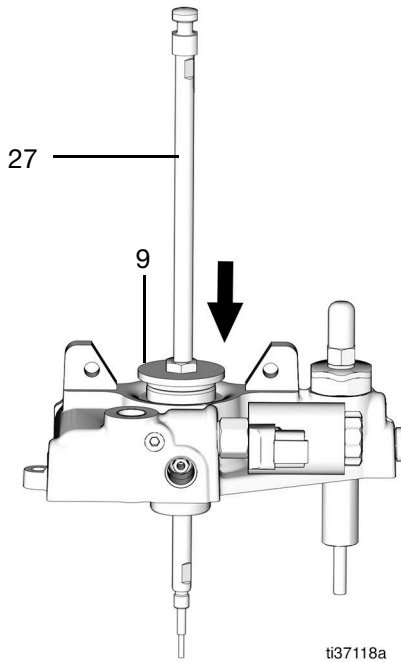

FIG. 54
- Apply a light coating of grease to the pump rod (27) and push it into the pump housing through the hole in the retaining nut (9) (FIG. 54).